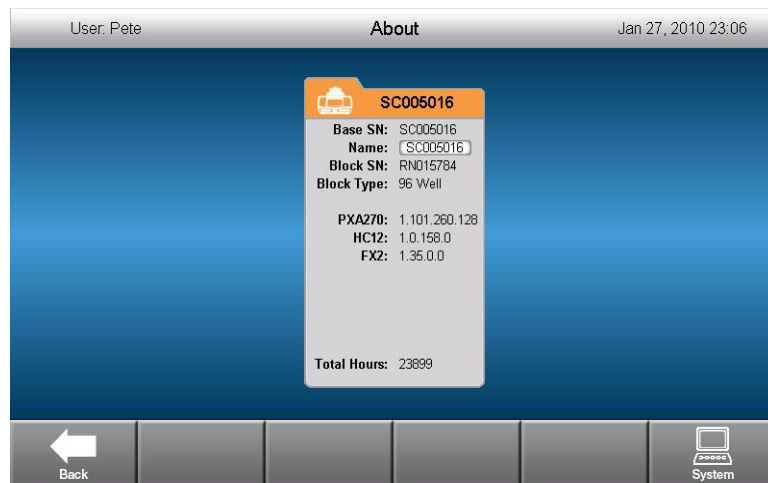

Figure 9. Touch the Name button to rename the instrument.
1. From the home screen, touch the **Tools** button to open the tools menu. Touch **About**, then touch the **Name** button (Figure 9).